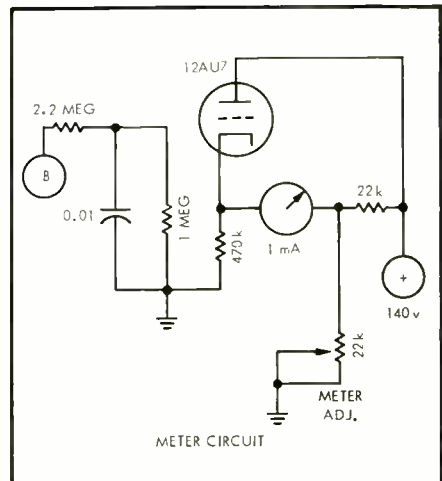

Fig. 2. FM tuning indicator.
A. Here are two schematics, Fig. 2 and 3. Either one of these can be used to add a tuning indicator to your equipment.
You will have to balance the tube section in the meter amplifier of Fig. 2 so that, in the absence of voltage at the grid of the tube, the meter will register zero. The meter associated with this circuit must have a zero-center scale.